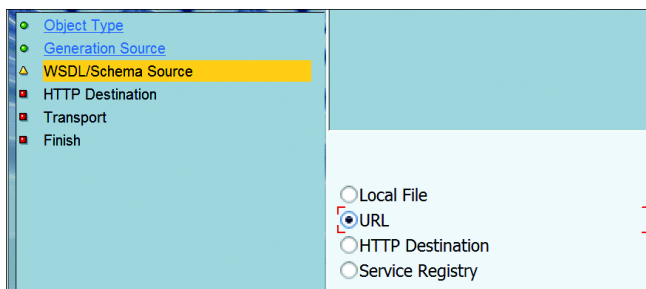

Figure 19.91 Schema Source
4. Select URL as the WSDL/SCHEMA SOURCE, as shown in Figure 19.91. This allows you to use the URL of the web service as the source.